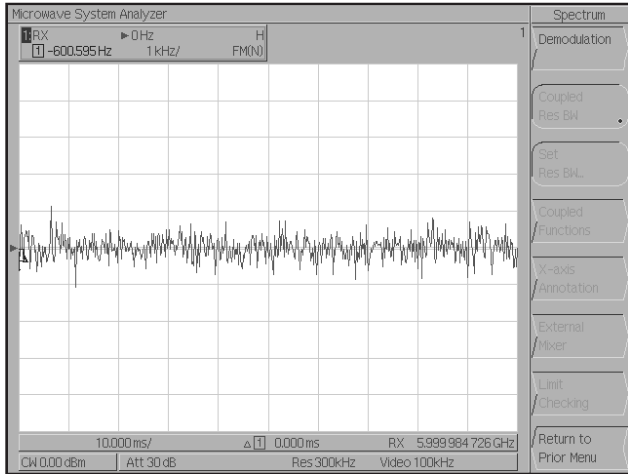

Fig. 16 Residual PM on AM test signal
**[SPECTRUM]** *[More]* *[Demodulation]* *[View Waveform]* to display the residual PM (Fig. 16).